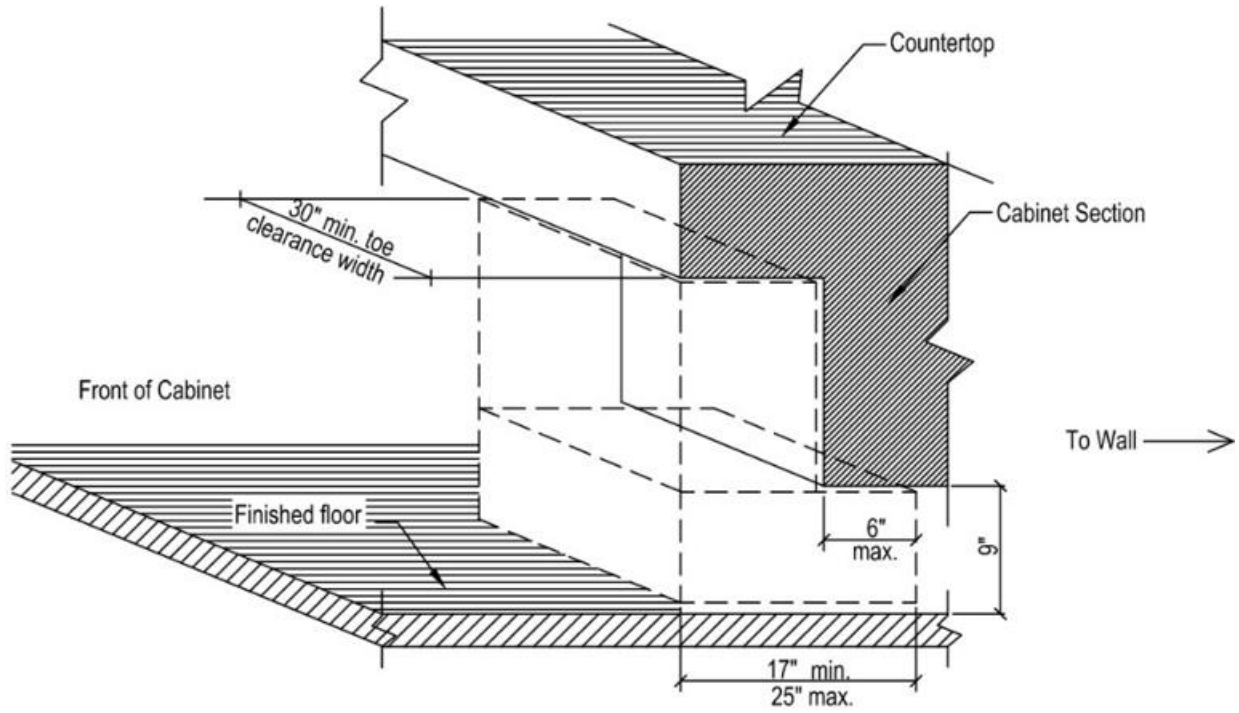

Figure 1: Toe Clearance
- An **adjustable or replaceable** 30 inches wide **work surface** at variable heights between 29 inches and 36 inches or fixed at 34 inches maximum with toe and knee clearance, as depicted by Figures 1 and 2, shall be provided. (ICC 1003.12.3.2) A clear floor space positioned for forward approach and centered on space must be provided for the work surface. Cabinetry is permitted under the work surface, provided the cabinet can be removed without removal or replacement of the work surface, the floor finish extends under such cabinet, and the walls behind and surrounding the cabinet are finished. (ICC 1003.12.3.1)
- A 30-inch by 48-inch clear **floor space** centered on sink and positioned for forward approach shall be provided. Cabinetry can be added, provided it can be removed without removal or replacement of the counter, the floor finish extends under the cabinet, and the walls behind and surrounding the cabinet are finished. (ICC 1003.12.4.1) Toe and knee clearances shall be provided per Figures 1 and 2. (ICC 306)